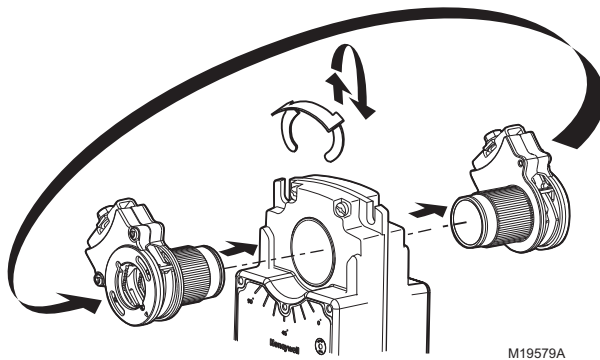

Fig. 30. Mounting shaft coupling to actuator opposite side.
- c. For modulating spring return control actuators: (1) MS7505 actuators reposition control signal selection switch; MS7103 actuators 2-10 Vdc only (reversal not possible), or (2) To change spring return direction: remove, flip over, and replace actuator on the bracket.
- d. Move the actuator coupling to the opposite side of the actuator, as displayed in Fig. 30.
- (1) Remove the retainer clip from the shaft coupling and set it aside for later use.
- (2) Remove shaft coupling from one side of the actuator.
- (3) Replace the shaft coupling on the opposite side of the actuator, aligning it based on the stroke labelling.
- (4) Replace the retainer clip on the shaft coupling using the groove of the coupling.